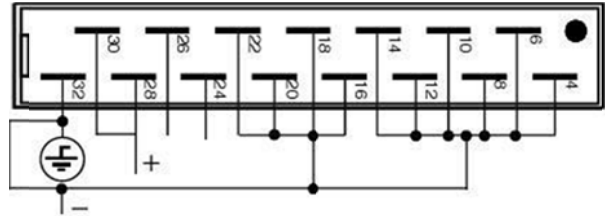

Figure 13. Input to output and input to case isolation voltage test.
2. Connect the output terminals of the converter to case. See *Figure 13*.
4. Connect your isolation tester between input and case. See *Figure 13*.
4. Connect your isolation tester between input and case. See *Figure 13* Raise the voltage of the isolation tester from 0 to 2500 Va.c. The voltage should not be applied for more than one (1) minute or the Y capacitors might be damaged.